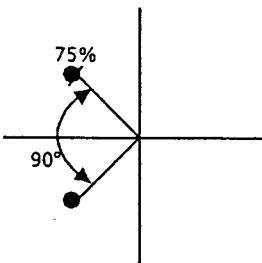

Fig. 4-8
- Adjust VR21 and VR25 so that the two burst vectors are on the 75% position on the vectorscope and the phase of the two burst vectors becomes 90° . (Fig. 4-8)